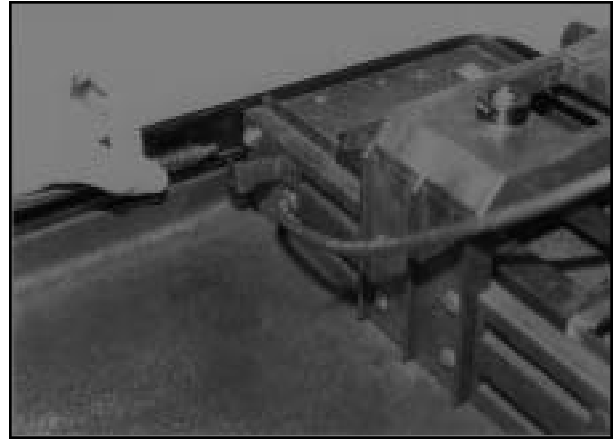

Figure 2
1. Insert adapter cord into auto jack mounted in rear of cover plate (See Figure 2).
2. Remove lens by lifting it straight up. Place the inactive lens in spare lens hole and place the desired lens in the brass barrel housing (See Figure 2).